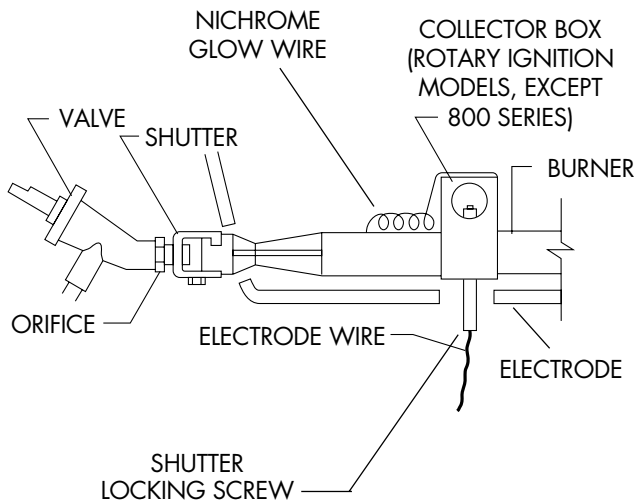

FIG. 29
6. Remove nichrome glow wire from burner port. (See Fig. 29) Do not disconnect nichrome wire from collector box.